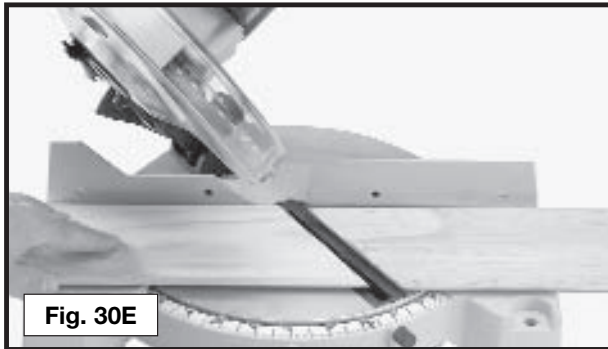

Fig. 30E
4. This machine has the capacity to accurately cut crown moldings and other bevel-type cuts (Fig. 30E).